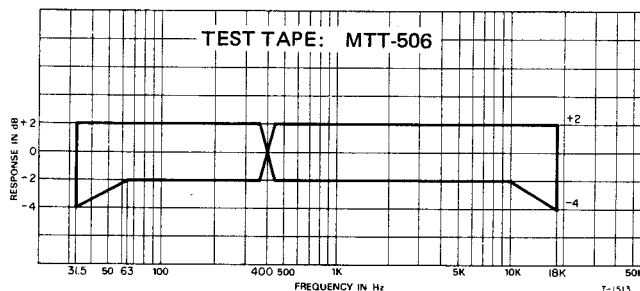

Fig. 6-14 Overall Frequency Response Limits (CrO₂)
11. While watching the AC voltmeter, make fine adjusting by turning L303/L403 so that the 18 kHz signal level satisfies the frequency response limits in Fig. 6-14.
3. Apply and record a test signal required in the Fig. 6-14, at -42 dB (6.15 mV).